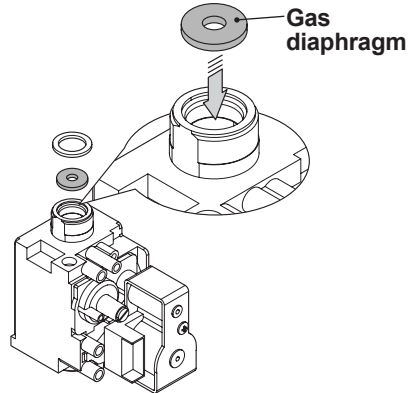

Figure 8.2
- Convert the type of gas by correctly replacing the gas diaphragm (Figure 8.2), referring to section "Technical data M270V.2025 SM" on page 22 and "Technical data M270V.2530 SM" on page 26.